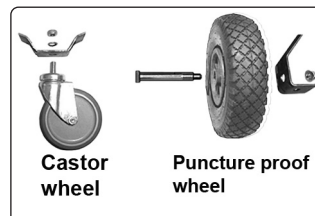

fig.1
- 4.1.1. Assemble the wheels and swivel castor using the nuts, bolts and washers supplied (fig 1).
**A:** Replace air filter (figs 1 & 4).